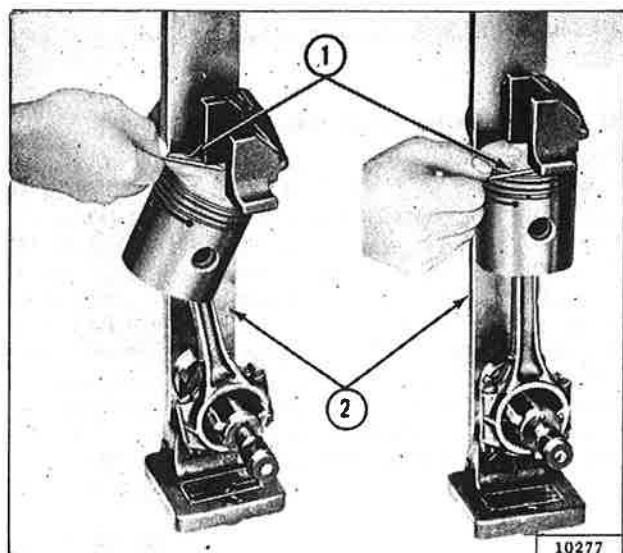

FIG. 39—CHECKING PISTON AND CONNECTING ROD ALIGNMENT
d. Place piston and rod assembly in a connecting rod aligning fixture and check alignment of the assembly as shown in Fig. 39. Follow instructions furnished with the fixture.